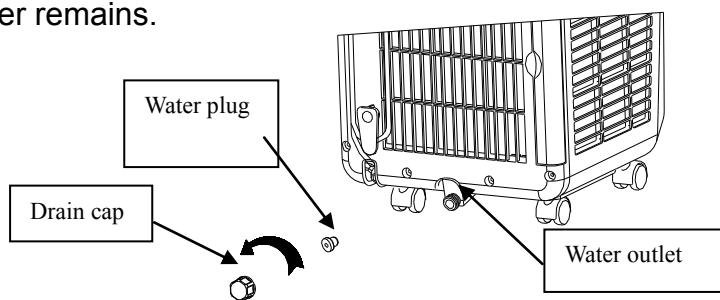

Figure 10
1. Manual drain: (as shown in Figure 10)